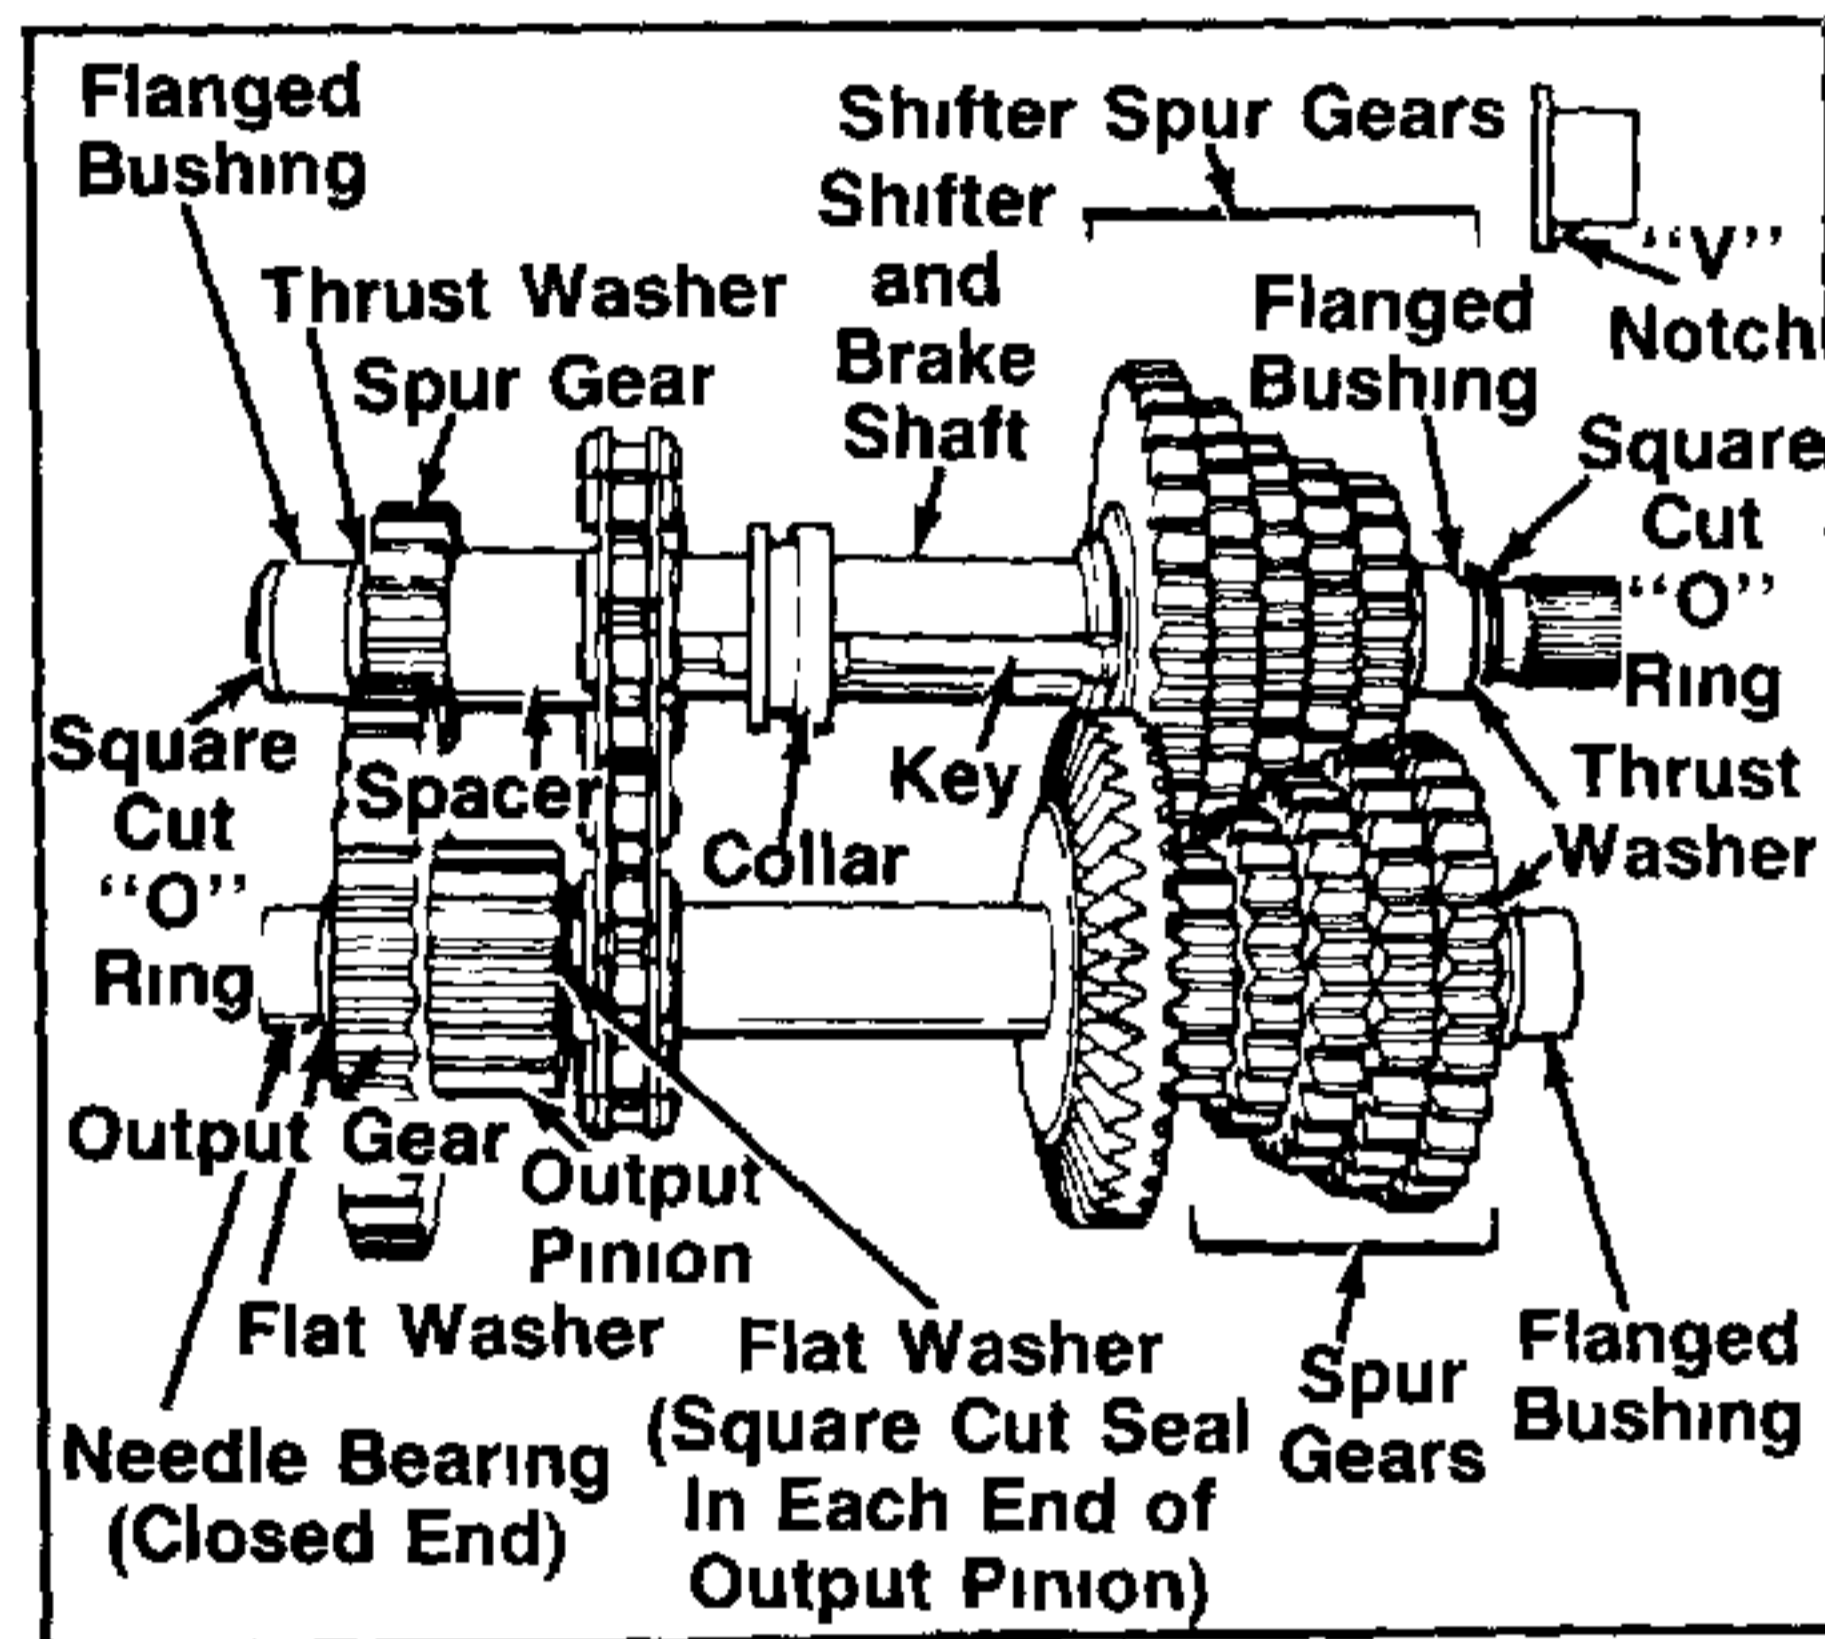

FIGURE 29
- 8 Install the output and pinion gears the flat washer, square cut rings, needle bearing (closed end) and spacer on one end and thrust washer and flanged bushing on the other end Note that the 'V' notch on the bushing fits into recess 'V' in case See figure 29